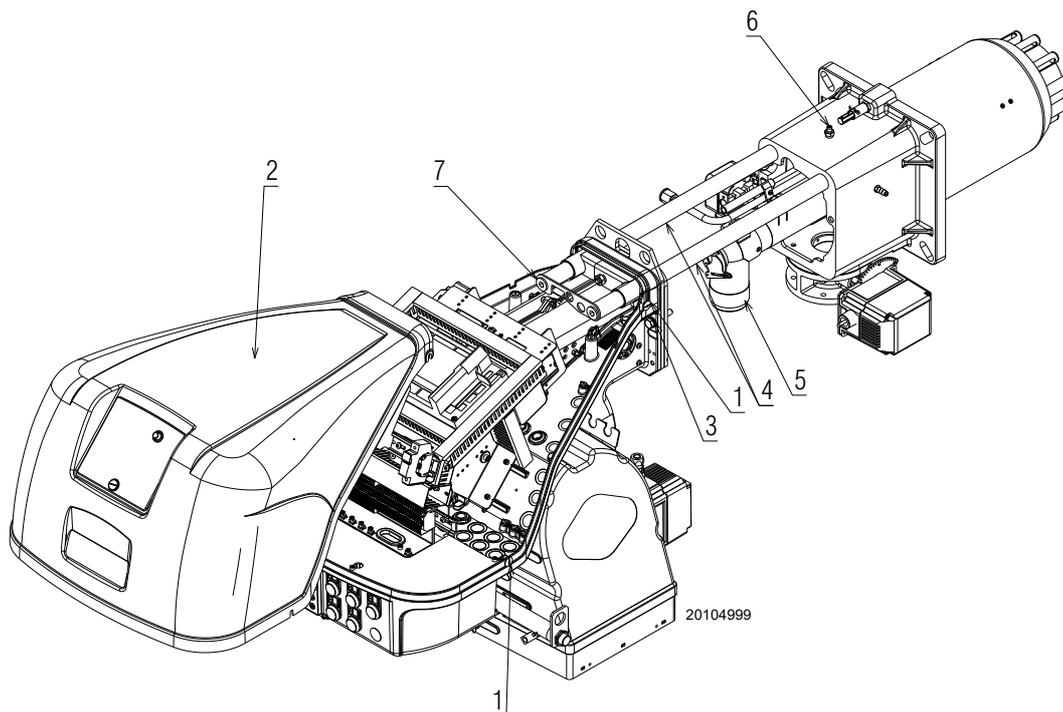

Fig. 37
Make sure that the gas outlet holes for the start-up, on the combustion head distributor, are free of dirt or rust deposits. If in doubt, disassemble the elbow (Fig. 37 at page 37).
- Loosen the 4 screws 1) (Fig. 37) and remove the hood 2);